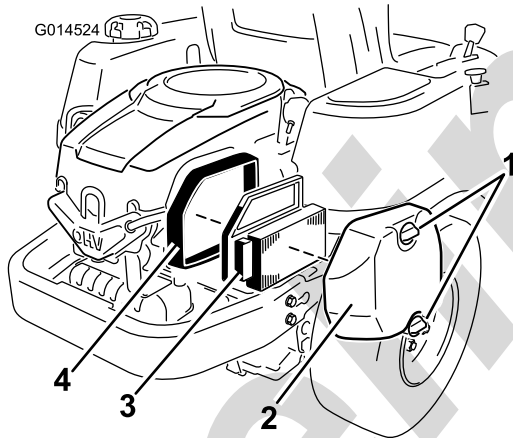

Figure 27
1. Remove the air cleaner cover (Figure 27).
2. Remove the air cleaner element with the integral rubber seal (Figure 27).
5. Install the air cleaner element with the pleated side “out” and seat the rubber seal onto the edges of the air cleaner base (Figure 27).
6. Reinstall the air cleaner cover and secure with the two knobs (Figure 27).